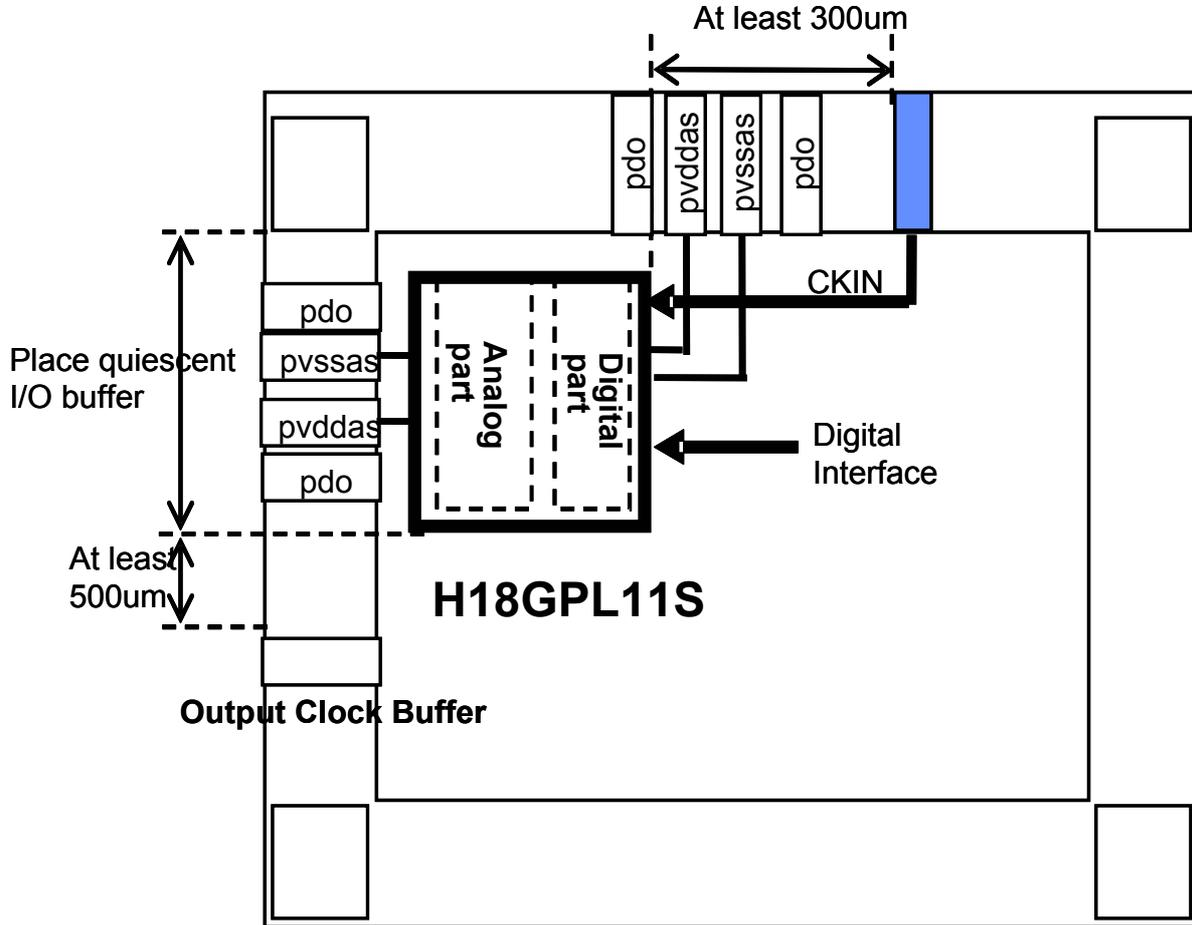

Figure 5. Placement and Routing consideration of PLL
See Figure 5 for an example.
- 6) Figure 5 is a placement and routing example of PLL. In the figure analog and digital power are separated with diode cut cells.